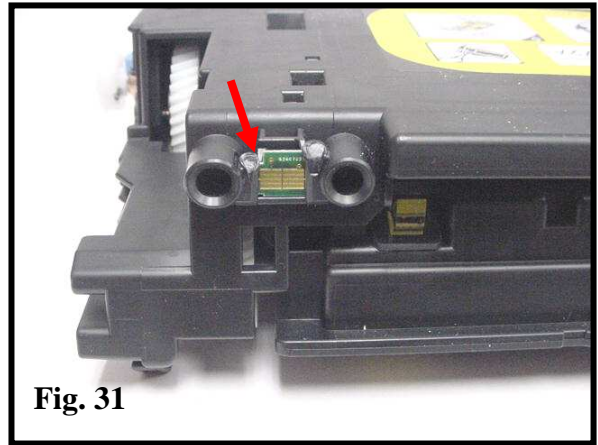

Fig. 31
31. Replace the OEM chip with the correct chip designated for each cartridge (Fig. 31).